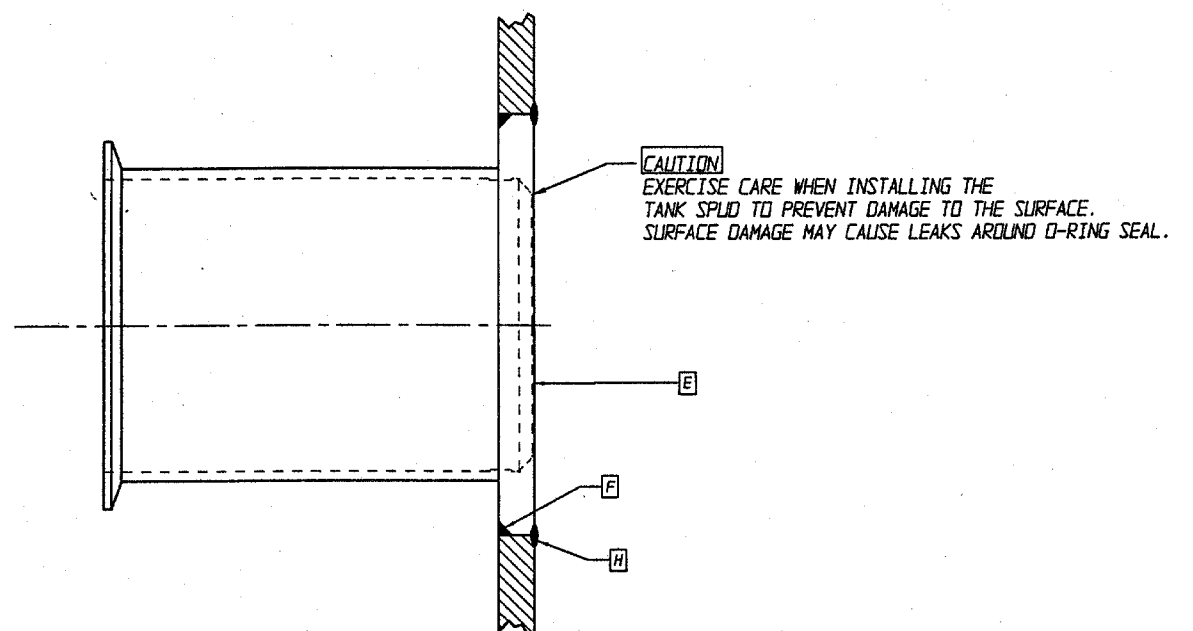

Figure 2. Welding Location
2. Position the tank spud as shown in Figure 2:
- A. The inner surface of the spud (at horizontal center line) is flush with the inner surface of the tank shown as item **E** in Figure 2.
3. Tack weld the outer surfaces in four places shown as item **F** in Figure 2.
4. Weld the inner surface of the tank spud to the tank. Use the recommended welding procedure. Grind the weld smooth so that the surface is free from crevices where particulate can accumulate (Item **H** in Figure 2).